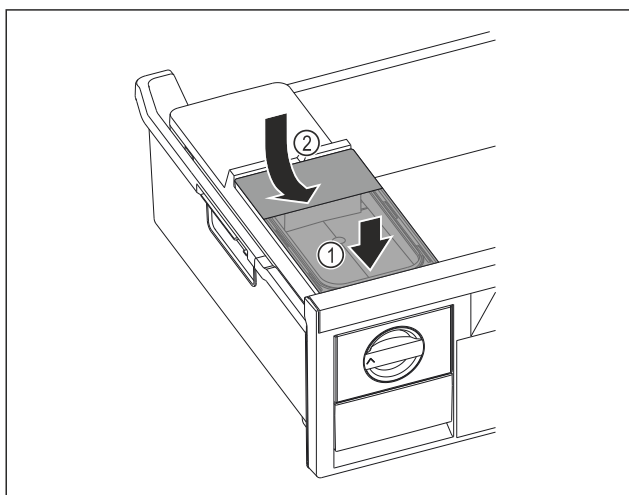

Fig. 72
- Position the water tank at the front. Fig. 72 (1)
- Lower the water tank at the rear. Fig. 72 (2)